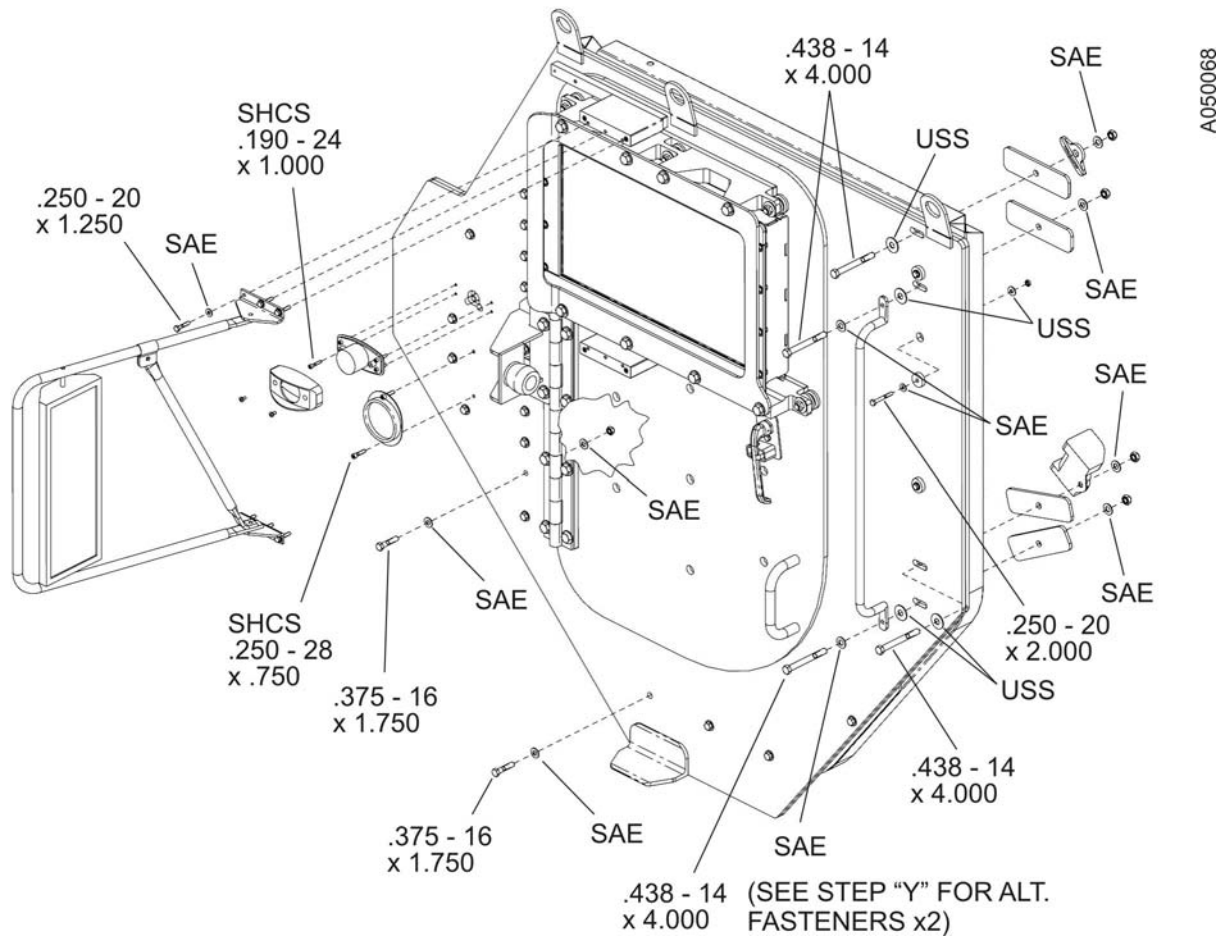

Figure 37. Side Armor Panel Assembly Attachment.
- m. Install the existing clearance light gasket onto the amber clearance light, feed the clearance light wire through the appropriate hole in the Side Armor Panel. Secure the amber clearance light onto the armor panel using four bolts (3/16 - 24 x 1.000 LG) and four washers (1/4 ID) (see Figure 37).
- x. Secure the rear edge of the Side Armor Panel by inserting three bolts (1/4 – 20 UNC x 2.000 LG) and three armor washers (P/N 111403-3), and three washers (1/4 ID, SAE) into the drilled holes and securing them with three washers (1/4 – 1.000 OD, USS) and locknuts (1/4 – 20) inside the cab (see Figure 37).
- y. Reposition the Cab Entry Hand Hold on the second hole from the top of the rear edge of the Side Armor Panel and secure the Hand Hold in place by threading two bolts (7/16 – 14 x 4.000 LG), and two flat washers (7/16 ID) through the hand hold holes and the cab holes and securing them with two Aft Plates (P/N 113316), two flat washers (7/16 ID), and two locknuts (7/16 – 14) on the inside of the cab (see Figure 37). (Optional: If the vehicle uses a two-point seat belt, use two bolts (7/16 – 14 x 4.500), two washers (7/16 ID), and two locknuts (7/16 – 1/4) to fill the holes where the shoulder strap mounts would be located, and use two alternate bolts (3/8 – 16 x 4.750 LG) for the Cab Entry Hand Hold. These bolts are in the extra fastener kit, P/N 111444.
- aa. Attach the Side-View Mirror to the blocks using three bolts (0.250 – 20 x 1.250 LG) and washers (0.250 ID) at the top and three bolts (0.250 – 20 x 1.250 LG) and washers (0.250 ID) at the bottom (see Figure 37).